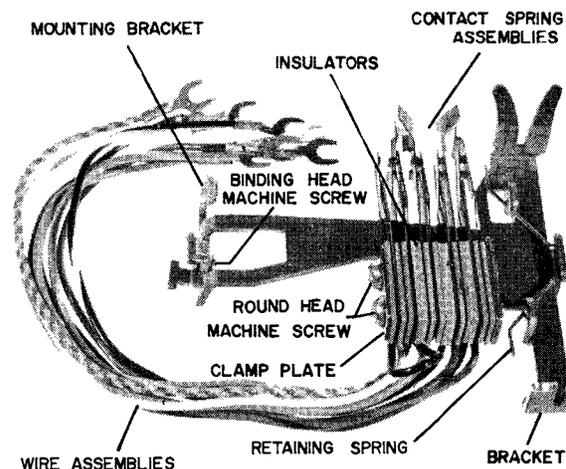

Fig. 2-1 TYPICAL PLUNGER SWITCH
2.1 The various parts of a typical plunger switch are identified in Fig. 2-1.